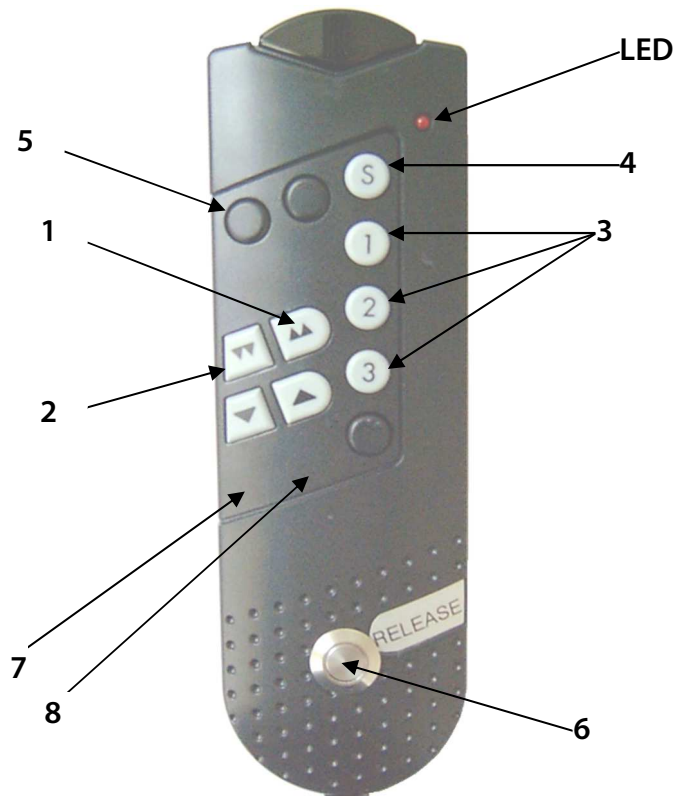

Figure 2-2
After removing source of fault reset the status message by pressing the release button (Fig. 2-2/6).
Call Protec authorized, qualified technical service, if after reset of status message by pressing the release button (Fig. 2-2/6) the failure status is indicated during next moving again.
If after reset of indicator message with release button (Fig. 2-2/6) the drive blocked reason is not removed, the drive in function will move only in direction of the blocked drive, independently if up or down (Fig. 2-2/1, 2 or 7, 8) is commanded. This will prevent inclination of table top.
To move the table top up/down, it is necessary to depress at first the motion-release button (Fig. 2-2/6) before any other motion button (Fig. 2-2/1, 2, 3 or 7, 8).
To stop motion it is necessary to release at first the motion button (Fig. 2-2/1, 2, 3 or 7, 8) before the motion-release button (Fig. 2-2/6).
By depressing one of the arrow pushbuttons ,  or ,  (Fig. 2-2/1, 2 or 7, 8) in conjunction with the motion-release button (Fig. 2-2/6), the table top moves up or down. At end positions the movement stops automatically.
For synchronization depress pushbutton „S“ (Fig. 2-2/4) three times and then pushbutton (Fig. 2-2/5) in conjunction with the motion-release button (Fig. 2-2/6) to drive the table completely down until both columns stops. The control unit confirms this with a single ‘beep’, the columns elevation controllers are synchronized now.
It is possible to store and memorize three different intermediate table heights to pushbuttons 1, 2 and 3. Move table height to desired position. Depress pushbutton “S” (Fig. 2-2/4) three times and then the memory pushbutton 1, 2, or 3 (Fig. 2-2/3).
For selecting a stored position, press key 1, 2 or 3 in conjunction with the motion-release button (Fig. 2-2/6) until table top stops.